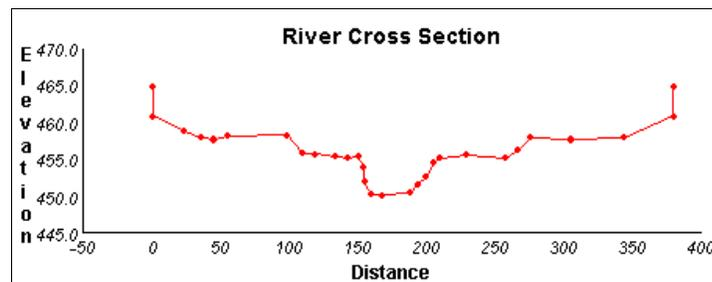

Figure 14-1 The *xsec* cross section data.
3. Click the *OK* button to update the plot, as shown in Figure 14-1.